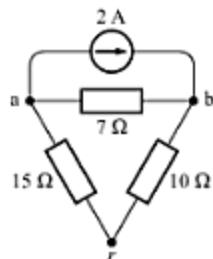

Fig. 3.77
18. For the circuit shown in Fig. 3.77, solve for  $V_a$  and  $V_b$  using node-voltage analysis, and then determine